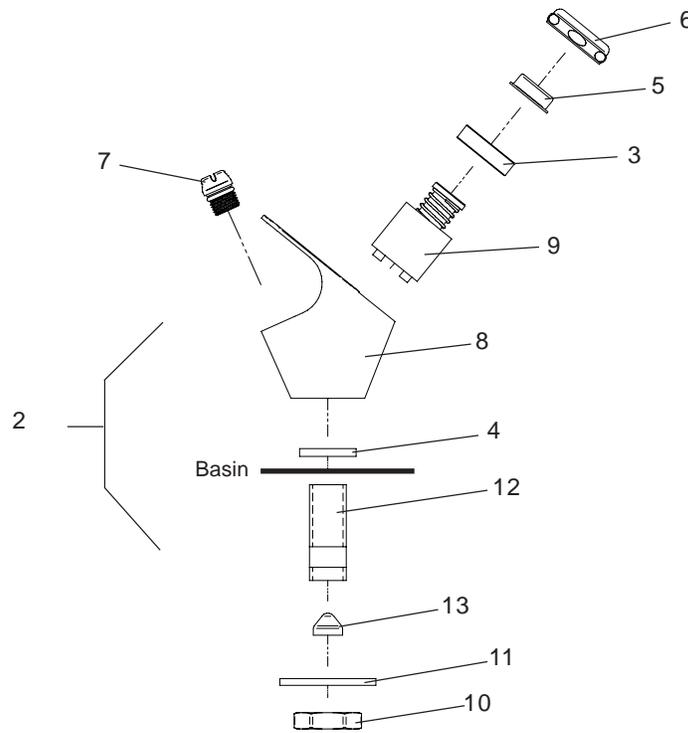

Figure 6
10. **STREAM HEIGHT ADJUSTMENT:** Stream Height is factory set at 45-50 PSI. If supply pressure varies greatly from this, remove items 5 and 6 (See Figure 6) from bubbler assembly and adjust the screw on the regulator assembly (Item 9). Clockwise adjustment will raise stream height and counterclockwise will lower the stream height. A stream height of 1-1/2" (38mm) is recommended.